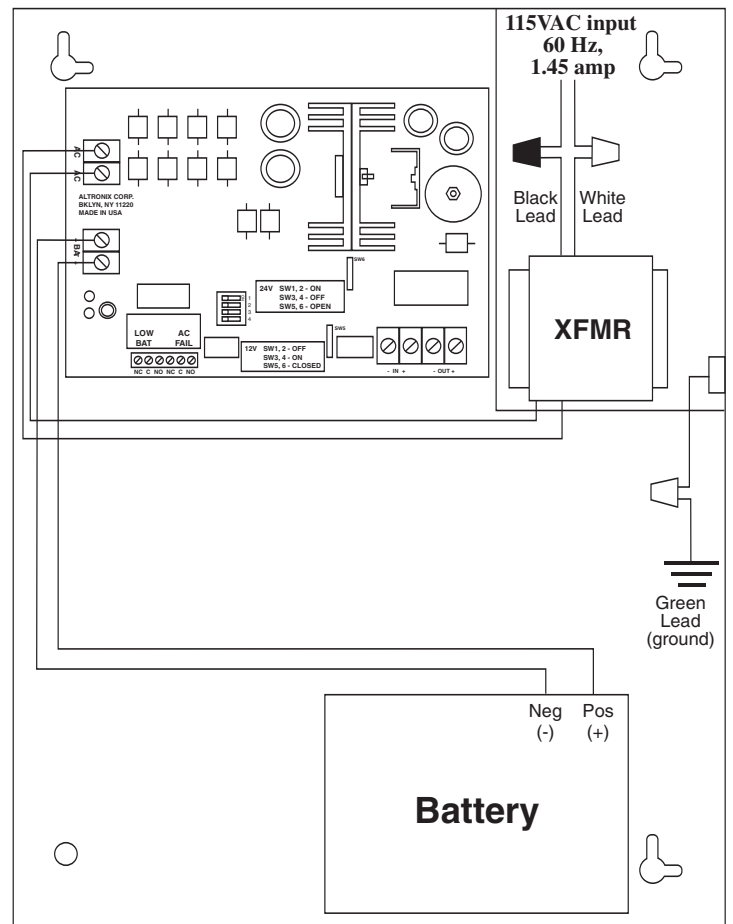

Fig. 1
2. Connect the black and white transformer leads of AL400ULADA to a separate unswitched AC circuit (115VAC, 50/60Hz) dedicated to the Fire Alarm System (Fig. 1).